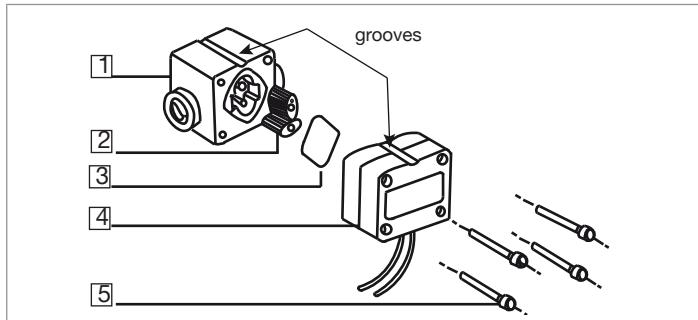

Fig. 6 Exploded view of the device
- Unscrew the 4 screws (mark 5 Fig. 6) and remove the cover including the electronic module (mark 4 Fig. 6).
- Remove the seal (mark 3 Fig. 6).
- Remove the rotors (mark 2 Fig. 6).
- Tighten the 4 screws (mark 5 Fig. 6), carefully to avoid damages to the housing, and in an alternating pattern at the following torque:
→ Put the seal (mark 3 Fig. 6) in its groove.
→ Put the cover (mark 4 Fig. 6) on the housing, aligning the groove on the cover with the one of the housing.